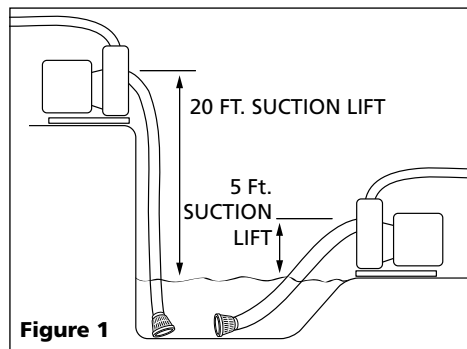

Figure 1
1. The pump should be placed as close as possible to the water being pumped. A pump with 20 foot suction lift will not remove water as quickly as a pump with 5 foot suction lift (Figure 1).